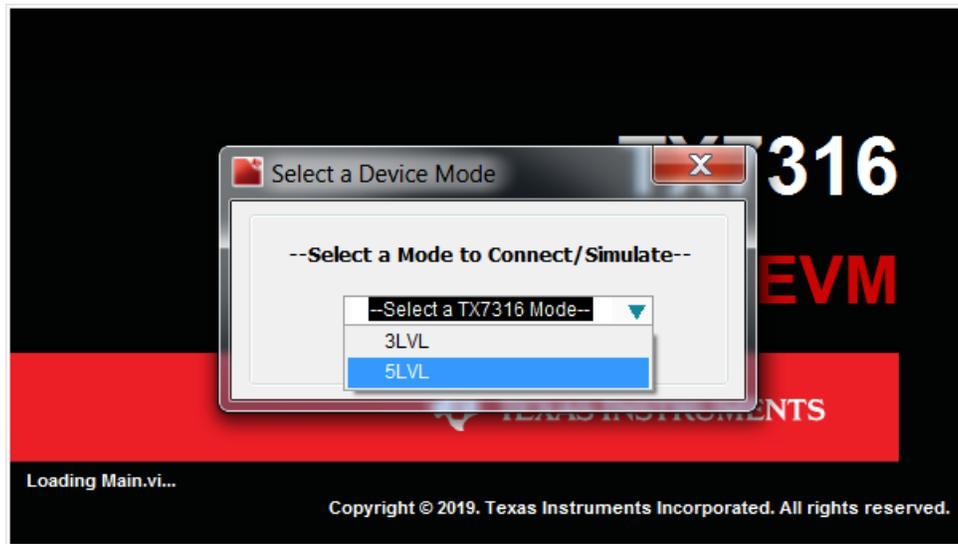

Figure 7. Select a Device Pop-up Window
4. **On-chip beamforming:** To check on-chip functionality, first ensure that the power supplies are powered off. Then, connect the USB cable to the board and open the GUI. Select 5-level mode in the *Select a Device Mode* pop-up window. (See Figure 7). Turn on the power supplies once the GUI is loaded. Click *DUT HW Reset* button on the *Quick Setup* tab (See Figure 8) to hardware reset the device and then click *Reset Memory to 0* button to initialize the memory.